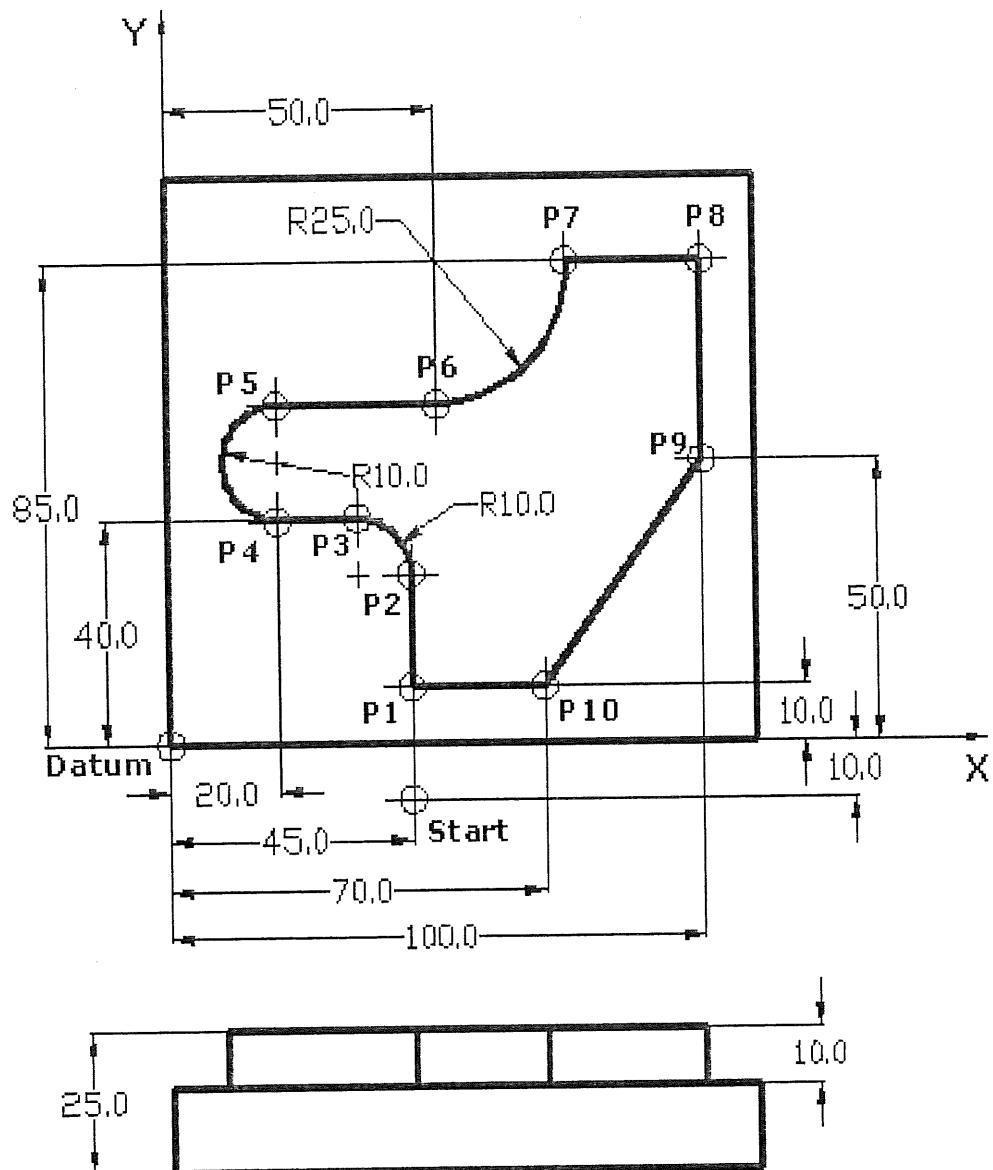

Figure 2
- a) With the given drawing (Figure 2) and using **absolute mode**, write complete CNC programming for milling process. Please include spindle speed, feed rate, tool number and **depth -3.00 mm** in Z axis from the surface. (20 marks)